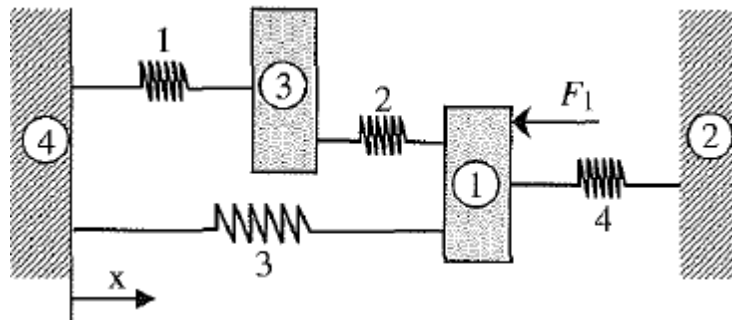

Figure P1.4
4. Four rigid bodies, 1, 2, 3, and 4, are connected by four springs as shown in the **Figure P1.4**. A horizontal force of 1,000 N is applied on Body 1 as shown in the figure. Using FE analysis, (a) find the displacements of the two bodies (1 and 3), (b) find the element force (tensile/compressive) of spring 1, and (c) the reaction force at the right wall (Body 2). Assume the bodies can undergo only translation in the horizontal direction. The spring constants are $k_1 = 400 \text{ N/mm}$, $k_2 = 500 \text{ N/mm}$, $k_3 = 500 \text{ N/mm}$, and $k_4 = 300 \text{ N/mm}$.